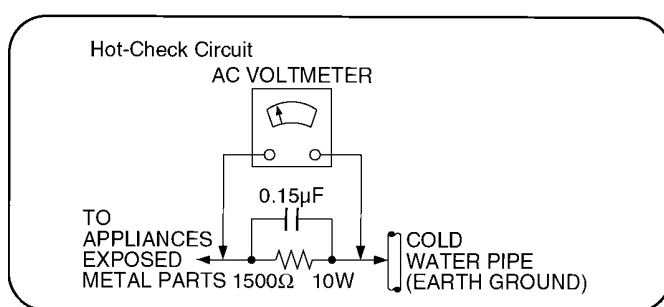

Figure 1
1.1.2. Leakage Current Hot Check (See Figure 1.)
2. Connect a $1.5k\Omega$, 10 watts resistor, in parallel with a $0.15\mu F$ capacitors, between each exposed metallic part on the set and a good earth ground such as a water pipe, as shown in Figure 1.